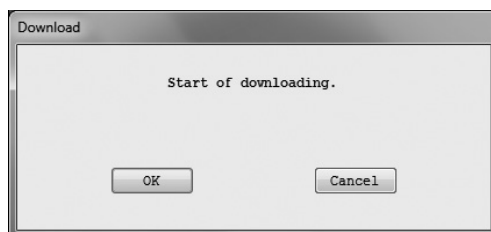

Fig.175
- ⑥ A message box (Fig. 175) will be displayed. Click the "OK" button to download the data to the transmitter.